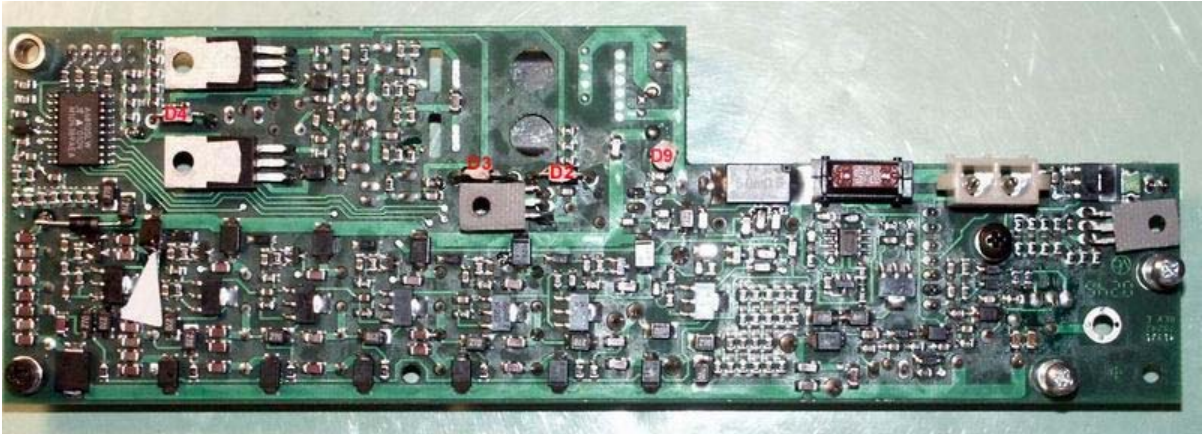

Figure 4: Diode side of PA/LP Filter Board
16. Test the diodes with a DVM. A faulty diode will have a resistance of 100 or 200 ohms or less. The board with the offending 80 metre diode, marked with a white arrow, is shown in the figure 4.